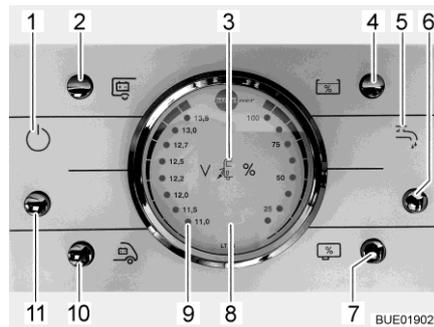

Fig. 184 Panel LT 96
The button (Fig. 184,11) switches the panel and the 12 V power supply to the living area on and off.
Switching on: ■ Press the button (Fig. 184,11): The 12 V living area power supply is switched on. The indicator lamp (Fig. 184,1) lights up.
Switching off: ■ Press the button (Fig. 184,11): The 12 V living area power supply is switched off. The indicator lamp (Fig. 184,1) goes out.
With the V/tank gauge (Fig. 184,8), note the left scale. The gauge automatically lights up as soon as a button is pressed.
- Press the button (Fig. 184,10): The battery voltage of the starter battery is displayed.
- Press the button (Fig. 184,2): The battery voltage of the living area battery is displayed.
With the V/tank gauge (Fig. 184,8), note the right scale. The gauge automatically lights up as soon as a button is pressed.
- Press the button (Fig. 184,4): The volume of water is displayed.
- Press the button (Fig. 184,7): The volume of waste water is displayed.
Switching on: ■ Press the button (Fig. 184,6): The water supply is ON. The water pump indicator lamp (Fig. 184,5) lights up.
Switching off: ■ Press the button (Fig. 184,6): The water supply is OFF. The water pump indicator lamp (Fig. 184,5) goes out.
The red "ALARM" warning light (Fig. 184,9) flashes as soon as the voltage of the living area battery falls below 11 V (measured under operation) and there is a risk of a total discharge.
The 12 V indicator lamp (Fig. 184,1) lights up when the 12 V main button (Fig. 184,11) is switched on.
The 230 V indicator lamp (Fig. 184,3) illuminates whenever line voltage is available at the transformer/rectifier input.